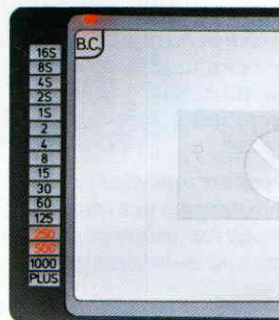

Fig. 30
*The battery check (fig. 30) will indicate when the NiCad batteries have only sufficient power for less than another 300 exposures. This will indicate automatically when the shutter release is pressed. When disposable batteries are being used, this indication will come on almost immediately as the capacity of the batteries is only about 100–200 exposures from the start.*